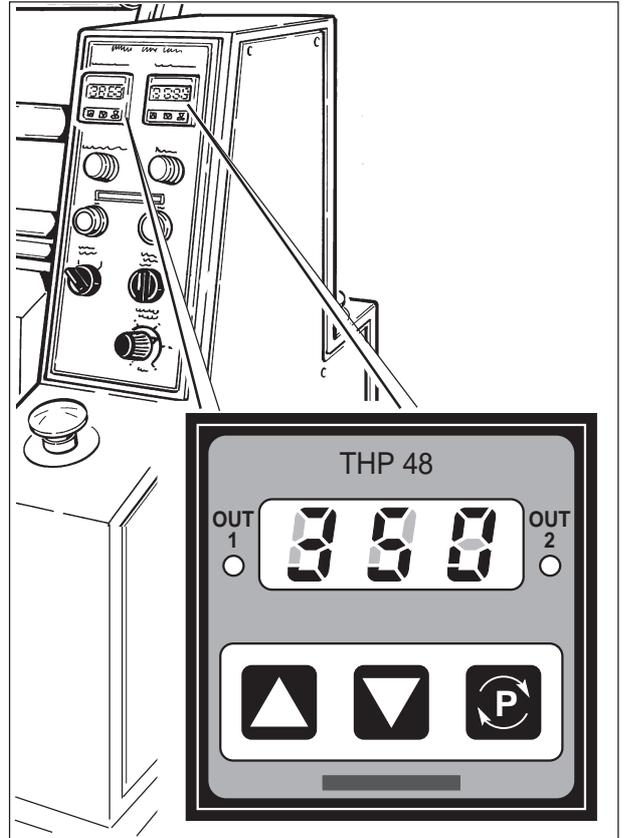

Fig. 10 - THERMOREGULATOR
3.3 - SETTING / PROGRAMMING OF THERMOREGULATORS (Fig. 10)